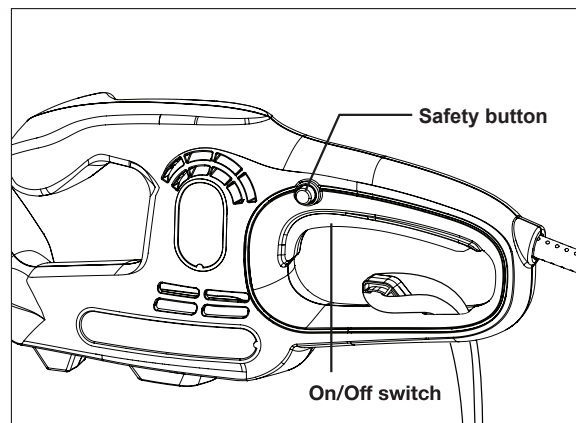

Fig. 2
1. To start the tool, press and hold the safety button, then squeeze the on/off switch (Fig. 2). When the blade starts moving and reaches to normal speed, release the safety button and start working.